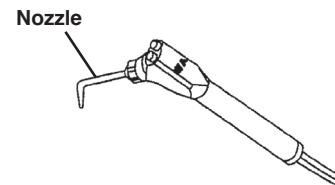

Fig.5-5 Belmont 77 Syringe
3. Belmont 77 Syringe (Fig.5-5)